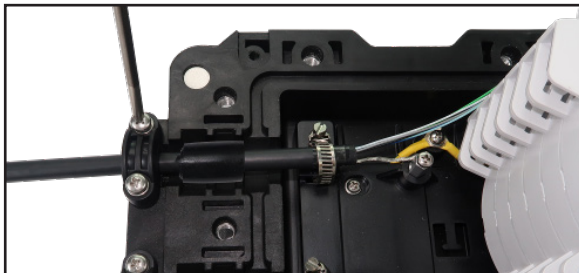

Figure 1-9: Secure the plastic clamp, hoop and strength member
- 8 Secure the plastic clamp, hoop and strength member (Figure 1-9).